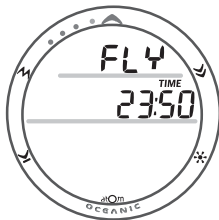

Fig. 70 - TIME TO FLY
**TIME TO FLY** information includes (Fig. 70):